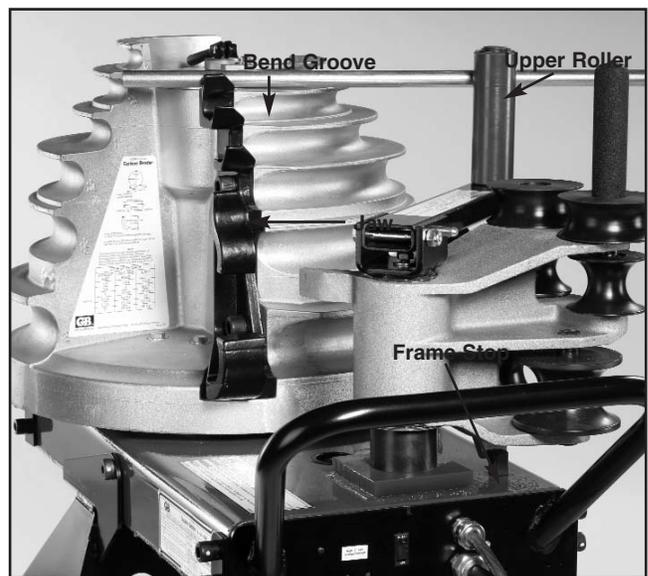

Figure 4. Bending 1/2" - 1"
5. The upper urethane roller and support arm (See Figure 4) is used for bending 1/2" through 1" conduit. One of the top three shoe grooves will be used, depending on conduit size.